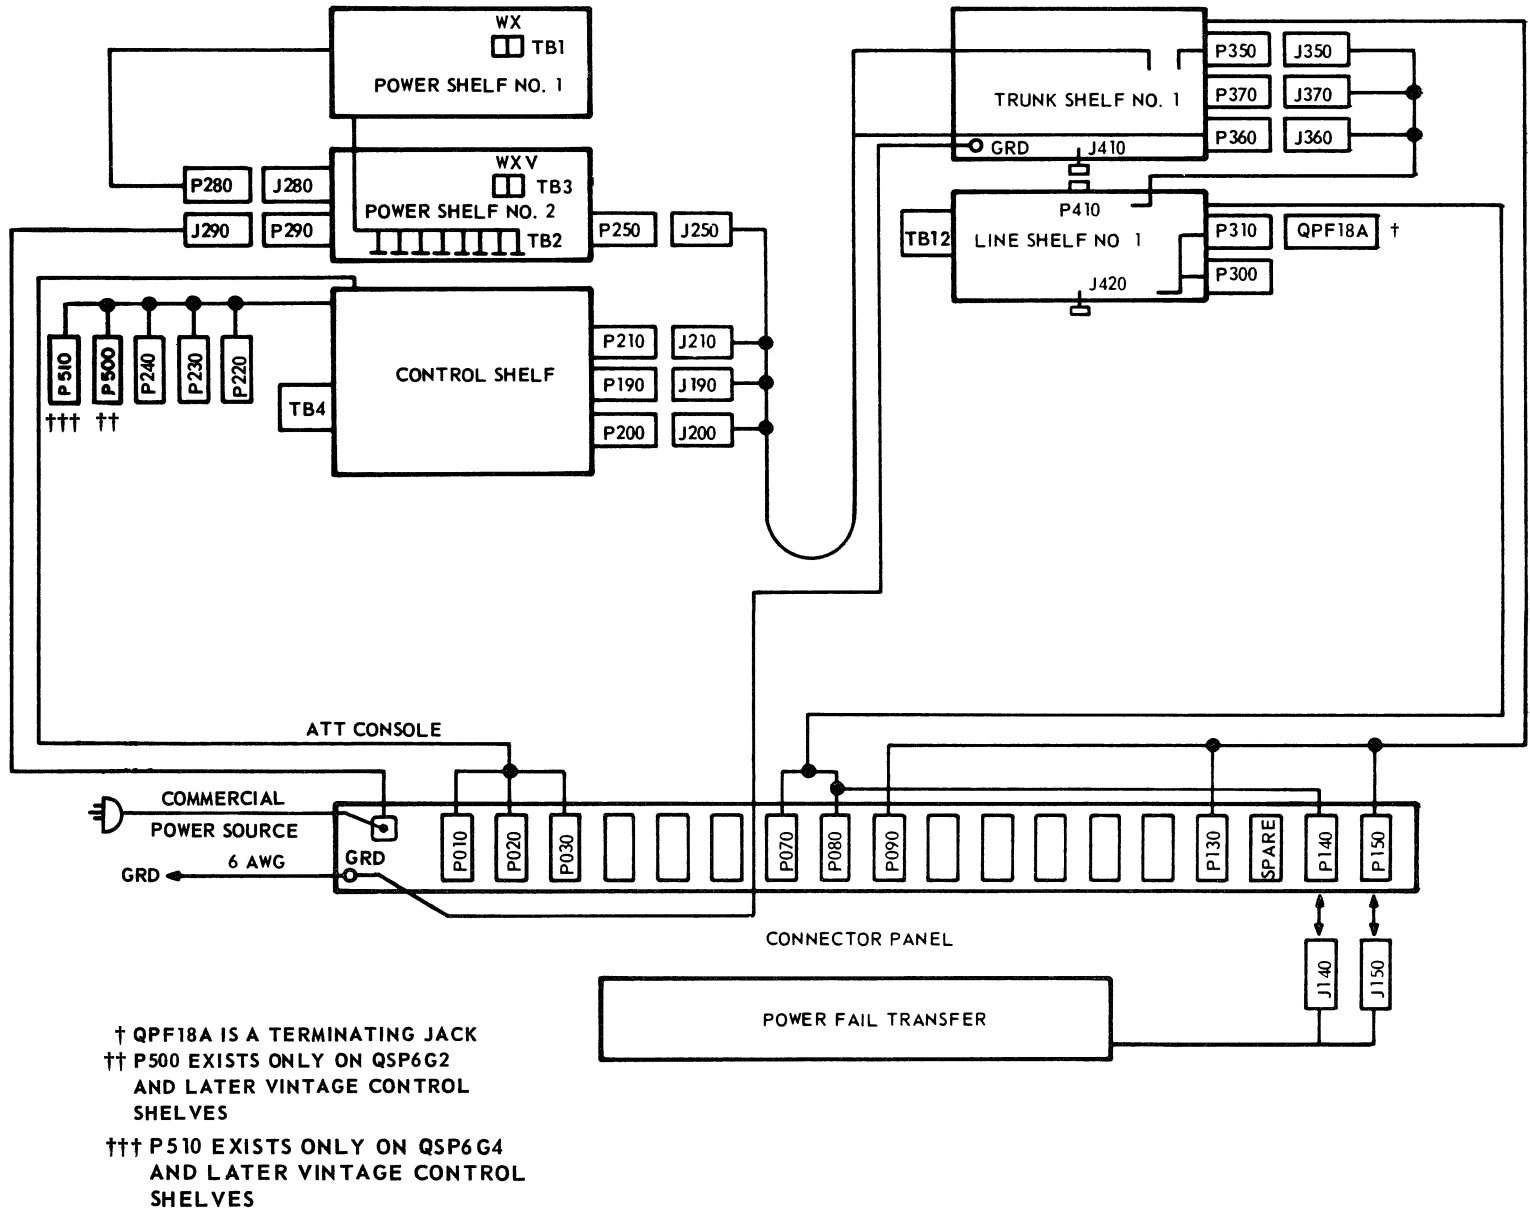

Fig. 8 – Internal Cabling of Basic Unit
4.01 The arrangement of the cabinet cabling for the possible shelf configurations is shown in Fig. 8 through 13.